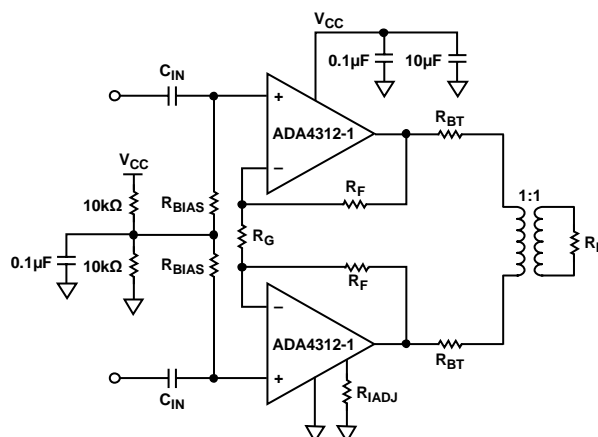
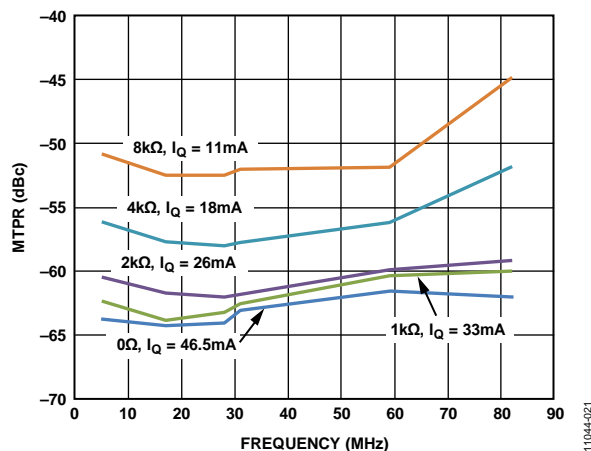

Figure 17. Typical G.hn Application Circuit
Figure 18. MTPR vs. R_{IADJ}
The feedback resistor value has a direct impact on the closed-loop bandwidth of the current feedback amplifiers used in the architecture of the ADA4312-1 differential line driver. Table 5 provides a guideline for the selection of feedback resistor values used in typical differential line driver circuits (refer to Figure 17).
The patented input stage of the core amplifiers is not conducive to operating either core amplifier independently. The ADA4312-1 input stage is designed to operate only in differential applications similar to the circuit shown in Figure 17.
In systems such as G.hn PLC modems, half-duplex or time-division duplex (TDD) systems require the line driver to be switched between transmit mode and high output impedance receive mode. The ADA4312-1 is equipped with a shutdown pin (SD, Pin 9) that stops the line driver from transmitting while switching the outputs to a high output impedance equivalent to 10 k Ω in parallel with $2R_F + R_G$ (see Figure 17). The shutdown (SD) pin is compatible with standard 3.3 V CMOS logic. If the SD pin is left floating, an internal pull-up resistor places the output in a disabled, high output impedance state. SD logic is referred to GND (Pin 4), which should be connected to 0 V.
In single-supply applications such as the one shown in Figure 17, it is necessary to establish a midsupply operating point (V_{MID}). To establish V_{MID} , use two 10 k Ω resistors to form a resistor divider from V_{CC} to ground and a 0.1 μ F ceramic chip capacitor for decoupling. Place the V_{MID} decoupling capacitor and the R_{BIAS} resistors as close as possible to the ADA4312-1.
Note that there is a trade-off between the adjusted quiescent current and the linearity (or MTPR) of the transmitted signal. Multitone power ratio (MTPR) was monitored at 5 MHz, 17 MHz, 28 MHz, 31 MHz, 59 MHz, and 82 MHz. Figure 18 can be used to gauge the approximate degradation of MTPR vs. R_{IADJ} and quiescent current while transmitting the G.hn signal across a 40 Ω differential load in the circuit shown in Figure 17.